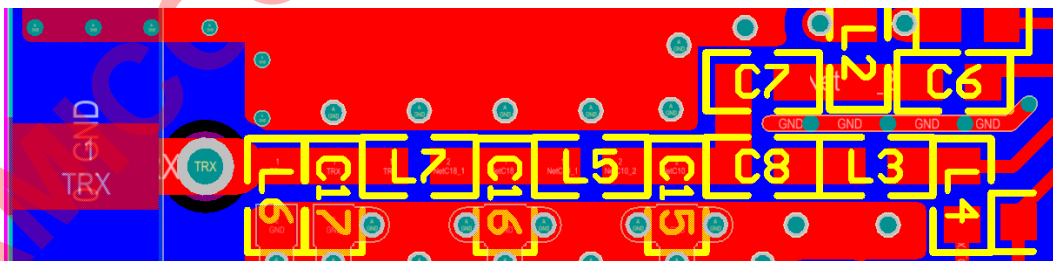

Fig. 2.2b RF matching
2. The impedance of RF path should be as close to 50 ohm as possible, and the RF trace should also be as short as possible. The ground plane below all RF traces must be intact and not fragmentary. The matching network (L3, L2, C6, C7, L4, C8) and LPF (C15, L5, C16, L7 and C17) should be placed close to A9129M0F7 IC because the matching network affects RF performance (power, and current) heavily. Therefore, we strongly recommend user to follow components placement and layout where shown in Fig. 2.2b without any change.